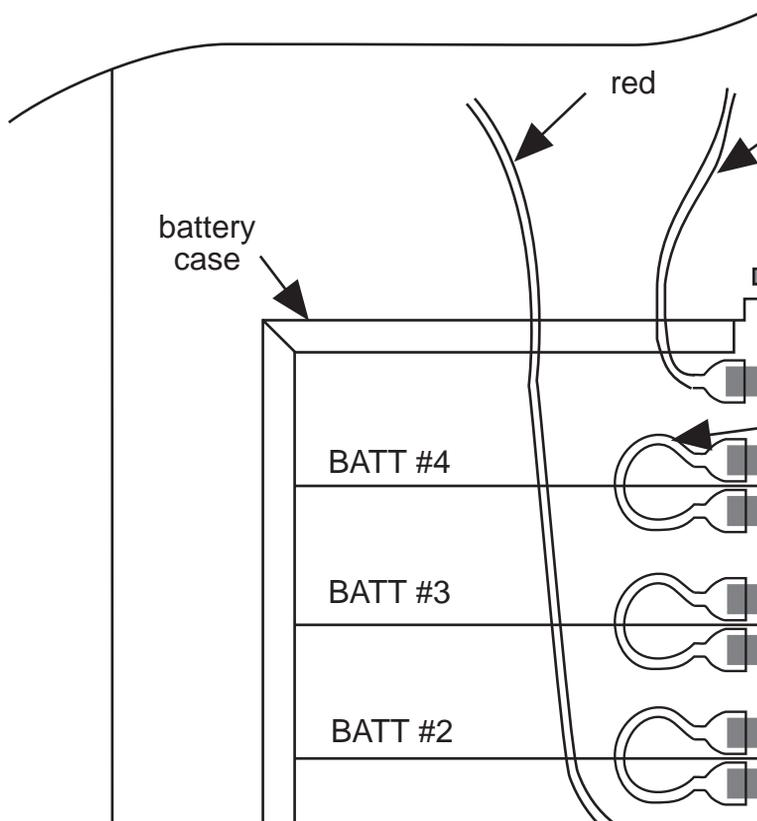

Figure 7-16. Battery Module
- Remove the screws which attach the battery module to the power supply chassis. These screws are marked "A" in Figure 7-16.
3. Disconnect the black lead that connects the power supply to the top lug of the top battery (Figure 7-16).
4. Disconnect the red lead that connects the power supply to the bottom lug of the bottom battery (Figure 7-16).
7. Disconnect the three red jumpers that connect the batteries together (Figure 7-16).
8. Remove the two screws which hold the battery module sheet metal pieces together. These screws are marked “B” in Figure 7-16.
1. Orient the new battery module as shown in Figure 7-16.
3. Connect the batteries with the three red jumpers (Figure 7-16).
6. Connect the black lead from the power supply to the top lug of the top battery (Figure 7-16).
7. Connect the red lead from the power supply to the bottom lug of the bottom battery (Figure 7-16).